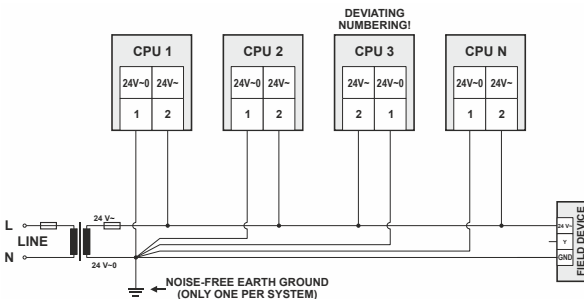

Fig. 26. Connecting and earthing multiple CPUs
- ▶ Connect earth ground to the respective terminal of the CPU, see Fig. 26.